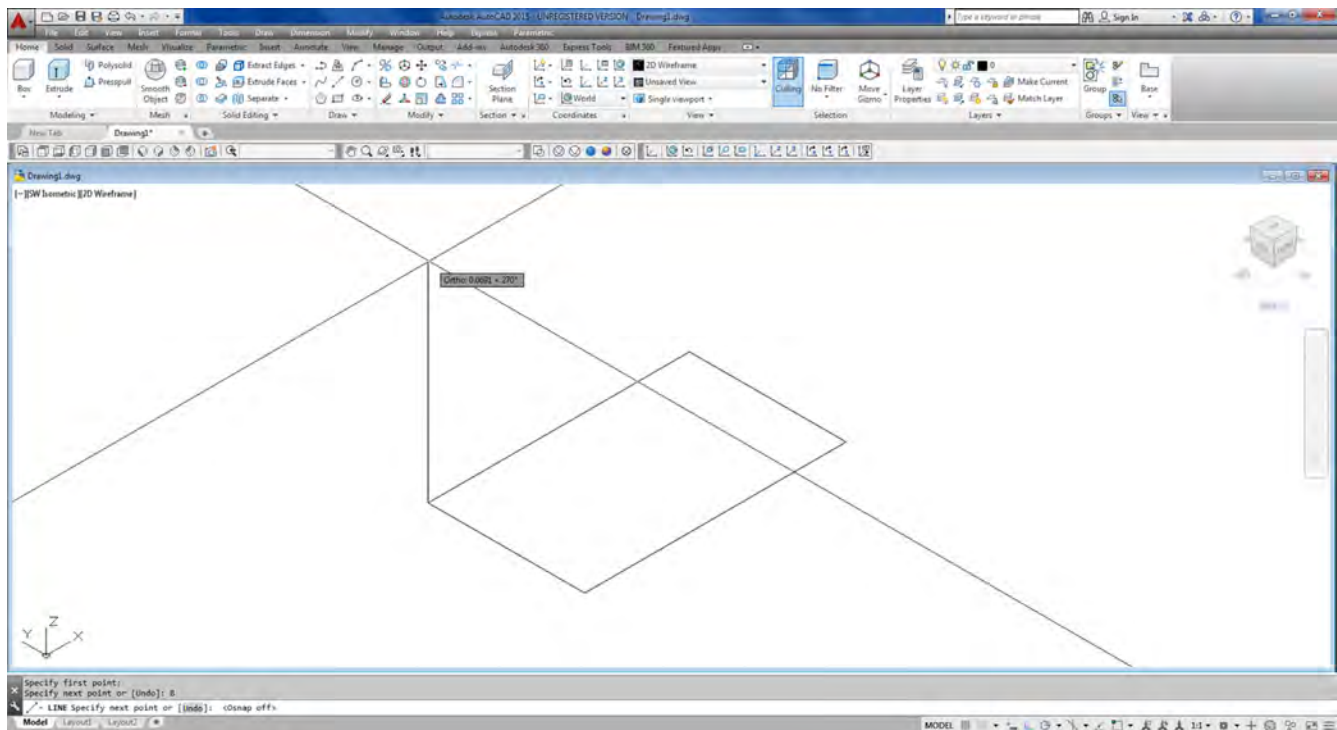

FIGURE 21.13
Step 1. Begin the line command, with Ortho on, from any endpoint corner of your new rectangle. The line will appear and go straight up as seen in Figure 21.13. You can make the line any random length or 8", as was done in this example.